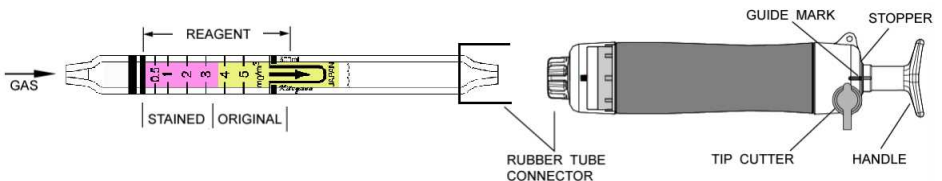

Fig.1
- ② Insert the detector tube into the aspirating pump securely as shown in Fig.1. (Arrow mark shall point to the pump.)
- ③ Align the guide marks on the shaft and stopper of the aspirating pump.
- ④ Pull the pump handle at a full stroke until it locks and wait for 20 seconds or until the completion of sampling is confirmed with the flow indicator of the pump. (See descriptions about the flow indicator in the instruction manual of the pump.)
- ⑤ Push back the handle without removing the detector tube from the rubber tube connector so that air in the pump will be discharged perfectly. Then repeat the step ③~④ four times.
- ⑥ On completion of sampling, read the scale at the maximum point of the stained layer.
- ① Temperature; The scale is calibrated based on the temperature of 20 °C (68°F). Readings obtained in other temperature circumstances should be corrected with the following temperature correction table.